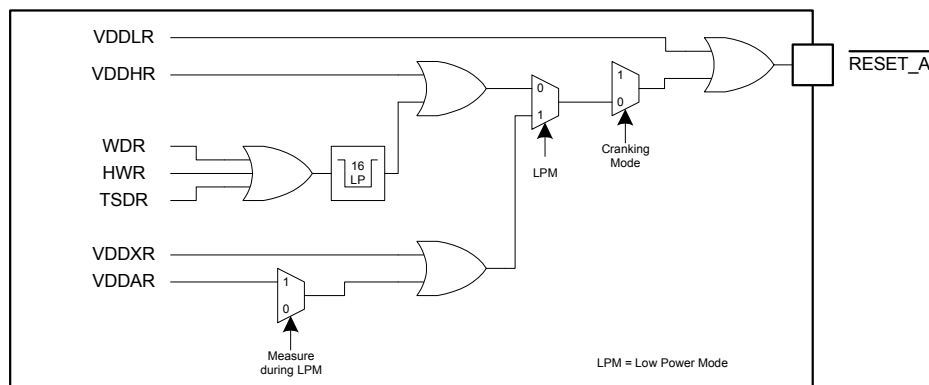

Figure 27. Analog Die Reset Implementation
- The Voltage at the VDDL, VDDH, VDDX, or VDDA has dropped below its reset threshold level. The source will be indicated for the VDDL by the LVRF + HVRF, for the VDDA by the AVRF, and for the VDDH by the HVRF bit. VDDX resets are not indicated via individual reset flags. See Figure 27 for dependencies.